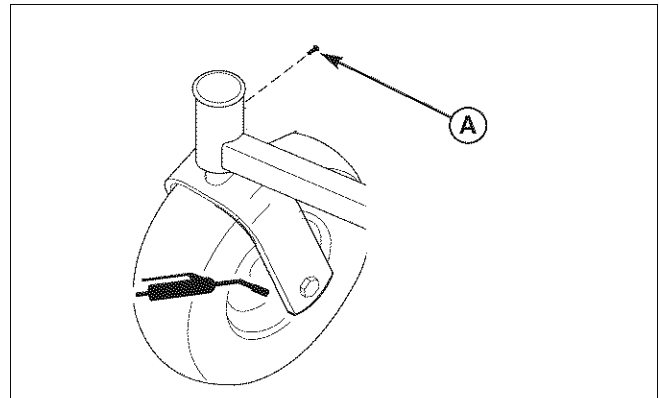

Figure 20. Front Caster & Wheel
1. Remove the 1/4-28 bolt (A, Figure 20) screwed into the front caster and install a 1/4-28 grease fitting.